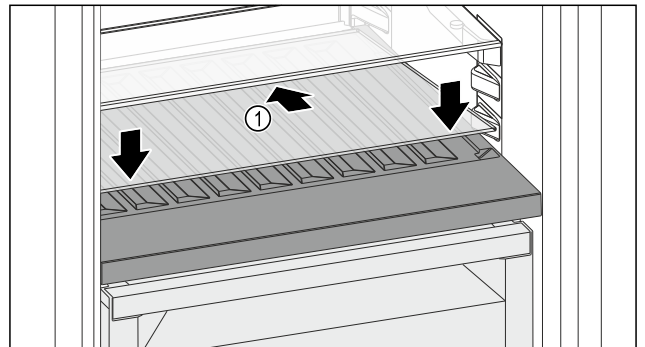

Fig. 125
- Place the glass shelf Fig. 125 (1) at an angle, sloping it downwards and backwards.
- Lower the glass shelf Fig. 125 (1) at the front.